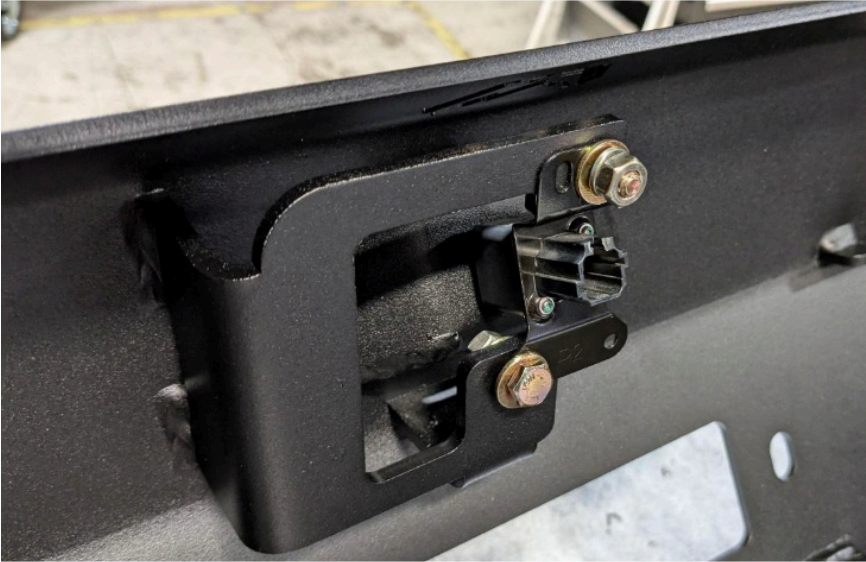

Figure 42.
32. Using a 7/16" combination and socket wrench, install the camera with the two (2) provided 1/4" hex head cap screws, flat washers, lock washers and nuts. Figure 42.